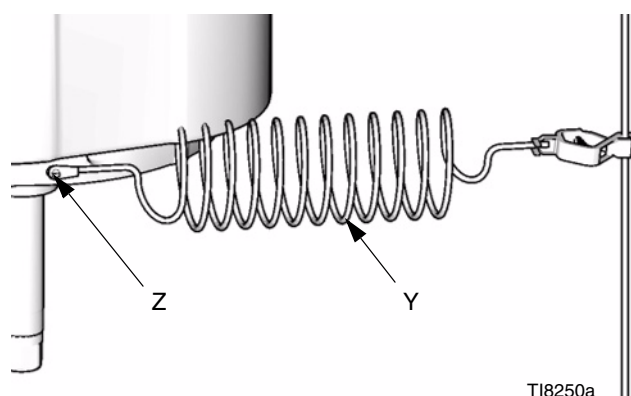

FIG. 1
Pump: Use a ground screw (Z) and lockwasher on the motor to attach ground wire 244524 (Y). Tighten the screw securely. Connect the other end of the ground wire to a true earth ground. See FIG. 1.